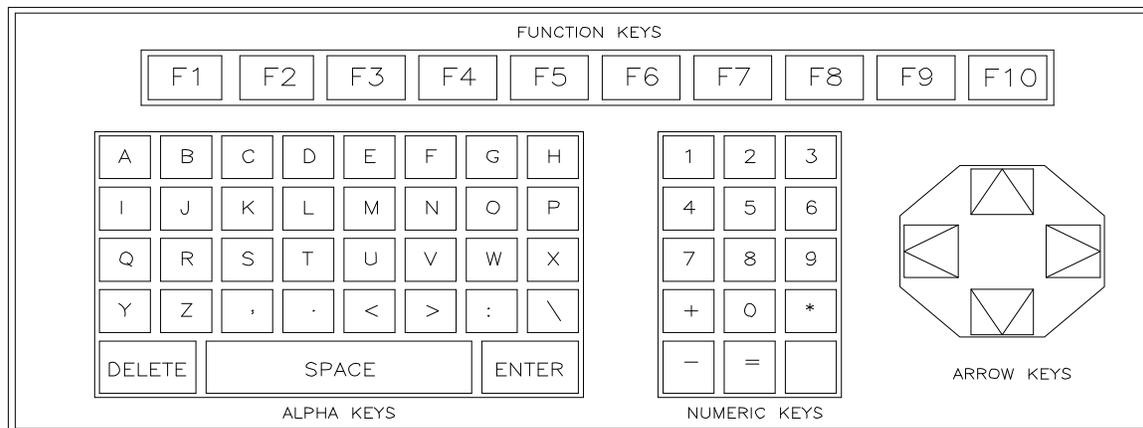

Figure 8-1
The functions of the keys are described following Figure 8-1 below.
2. Following is a description of the keypad commands that may be actuated while The Main Menu (see figure 8-1 below) is on the Display Monitor.